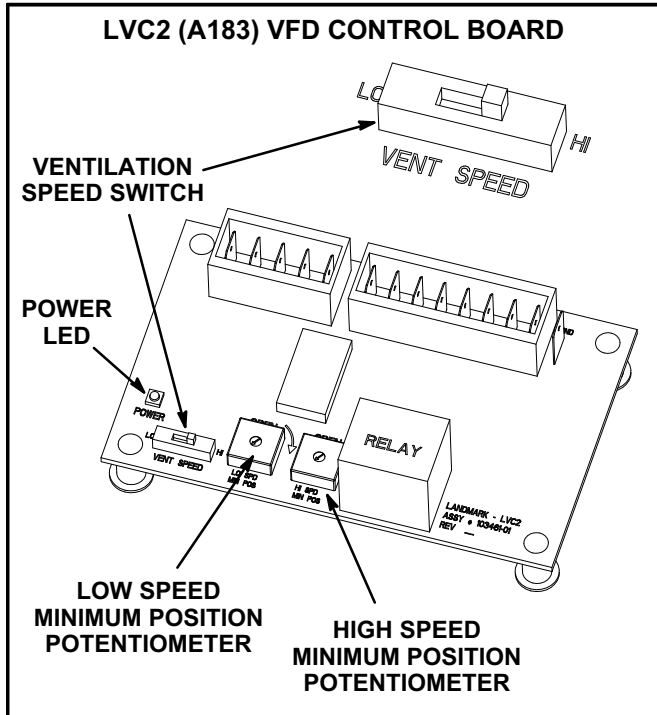

FIGURE 21
To save energy during ventilation, the blower speed can be set to low. This is accomplished by changing the ventilation speed switch on the VFD control board to "LO". See figure 21.
To maintain required minimum ventilation air volumes when the unit is in the occupied mode, two minimum damper positions must be set. A high and a low speed potentiometer are provided on the VFD control board to adjust minimum damper position. See figure 21.
- 5- Check the power LED on the board. See figure 21.
- 8- When LVC2 24VAC thermostat blower (G) input and 24VDC power are present, check the LVC2 low and high speed outputs. The LVC2 uses inverse logic to enable the blower; 1VDC will be read at the enabled blower speed terminal. See table 19.